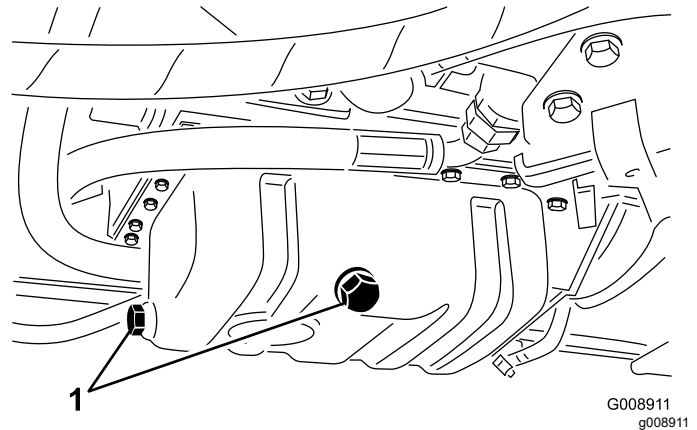

Figure 73
3. Remove either drain plug (Figure 73) and let the oil flow into a drain pan; when the oil stops flowing, install the drain plug.